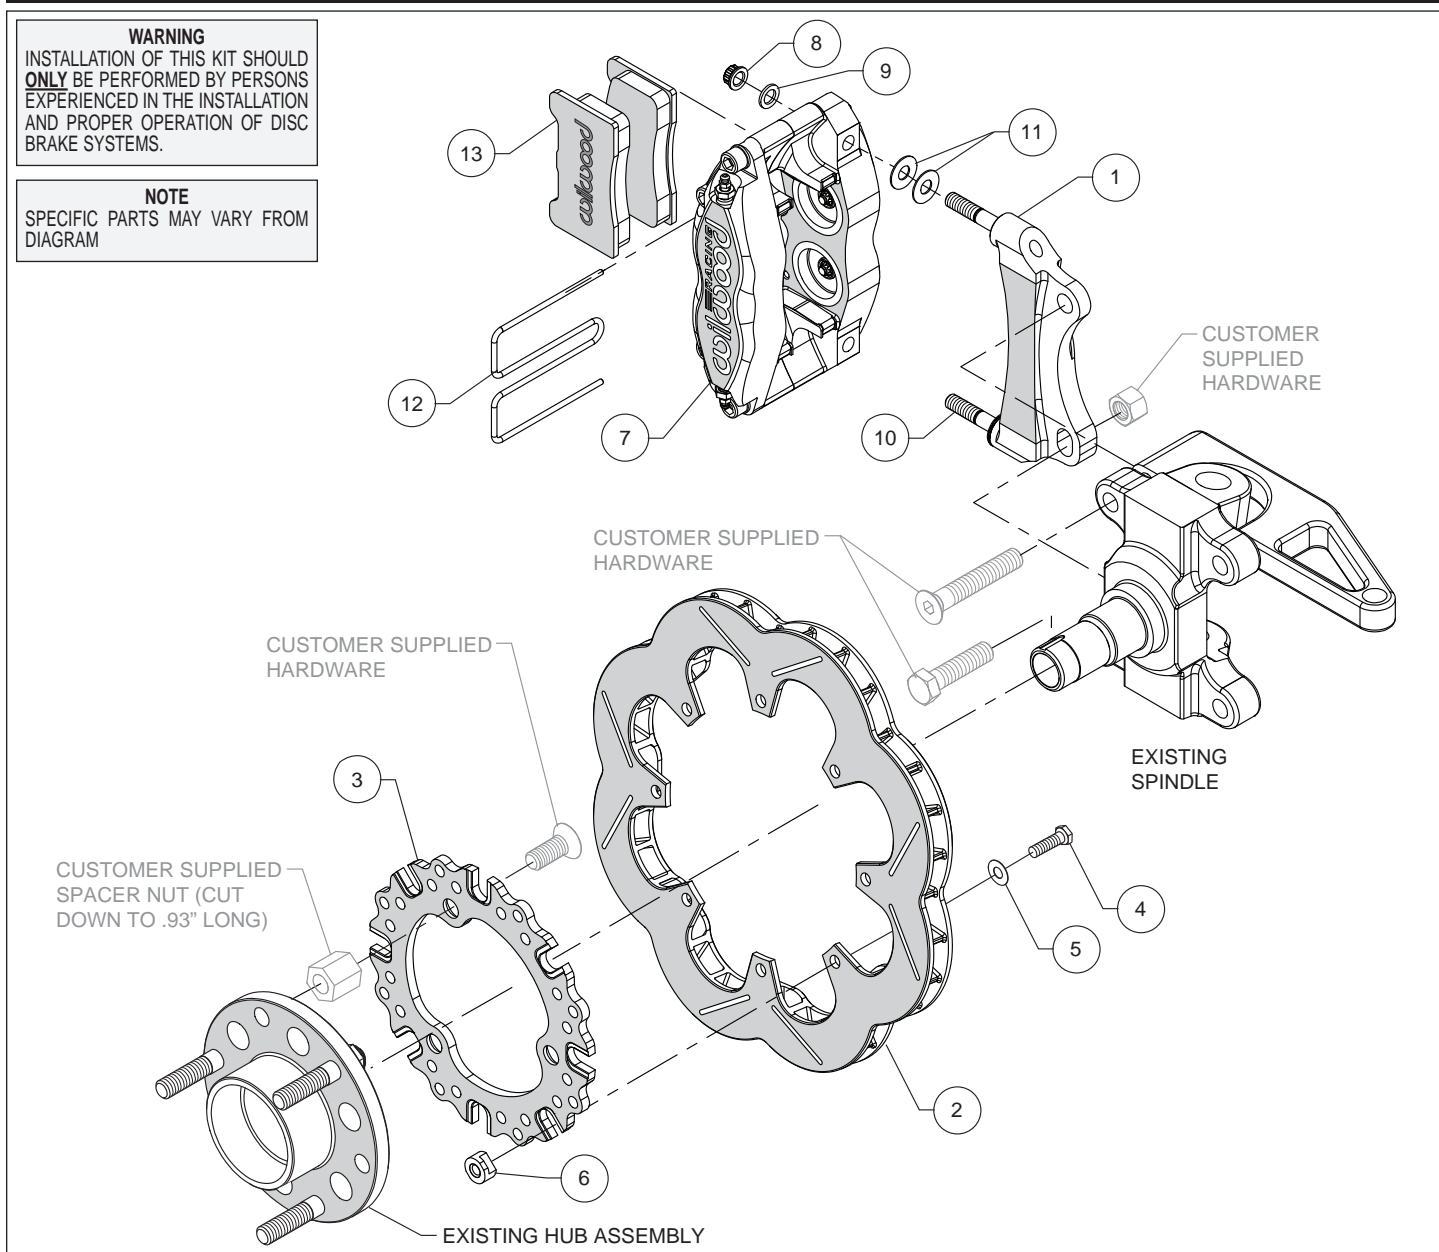

Figure 1. Typical Installation Configuration
Assembly Instructions (numbers in parenthesis refer to the parts list and Figure 1 on the preceding pages):
- The caliper mount bracket (1) should initially be installed with clean, dry threads on the mounting bolts. Orient the bracket as shown in Figure 1, and install using customer supplied hardware. Temporarily tighten the mounting bolts. **NOTE: The bracket must fit squarely against the mount bosses on the upright.** Inspect for interference from casting irregularities, machining ridges, burrs, etc. Remove the bracket mounting bolts one at a time, apply red *Loctite*[®] 271 to the threads, and torque to fastener supplier's specification.
- Orient the rotor (2) and rotor adapter (3), as shown in Figure 1, and attach using bolts (4), washers (5) and t-nuts (6), Figure 1. Using an alternating sequence, apply red *Loctite*[®] 271 to the bolt threads and torque to 220 **in-lbs**. Please refer to Wilwood's data sheet DS-669 (available at www.wilwood.com/Pdf/DataSheets/ds669.pdf) for complete t-nut bolt kit installation instructions. **NOTE: Rotor adapter may be fix mounted to rotor (instead of floating mount) using customer supplied hardware.**
- Install the rotor/adapter assembly to the existing hub using customer supplied hardware, Figure 1. **NOTE: Shorten three spacer nuts to .93" long to properly position the rotor in the caliper.** Slide the hub assembly onto the existing spindle and secure using customer supplied hardware.
- Lubricate the caliper mounting studs (10) with lightweight oil. Initially place two .035" thick shims (11) on each stud between the caliper and the bracket, as shown in Figure 1. Mount the caliper (7) onto the bracket (1) using lock nuts (8) and washers (9), Figure 1.
- Remove the pad clip retainer (12) from the caliper (7). Insert the disc brake pads (13) into the caliper, with the friction material facing the rotor (2), as shown in Figure 1. Check that the top of the brake pad is flush with the outside diameter of the rotor. If not, adjust by adding or subtracting shims (11) between the caliper and the bracket. After the caliper pad height is set, torque caliper lock nuts (8) to 30 ft-lb. Secure the pads in place with the pad clip retainer.